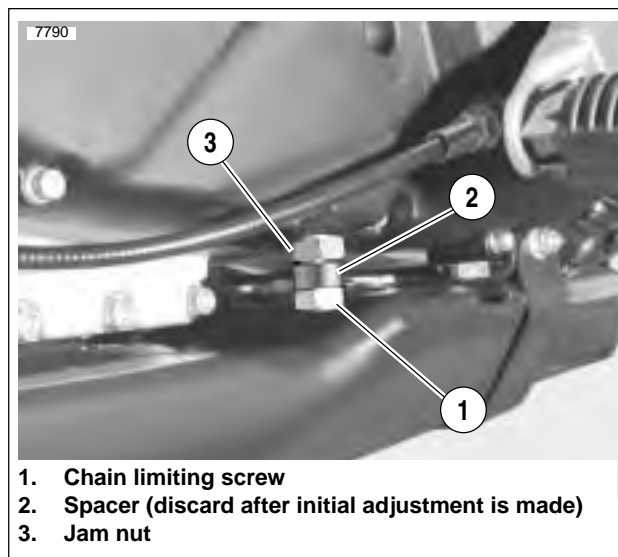

Figure 1-22. Adjustment Nut-with Spacer
See Figure 1-22. Buell Blast Models are shipped with a spacer between the primary chain limiting screw and the lock nut. The spacer is used to quickly get proper adjustment during production. This spacer should be removed and discarded at the first adjustment interval.
1. See Figure 1-22. Back-off jam nut (3) and chain limiting screw (1).
2. Remove spacer (2).